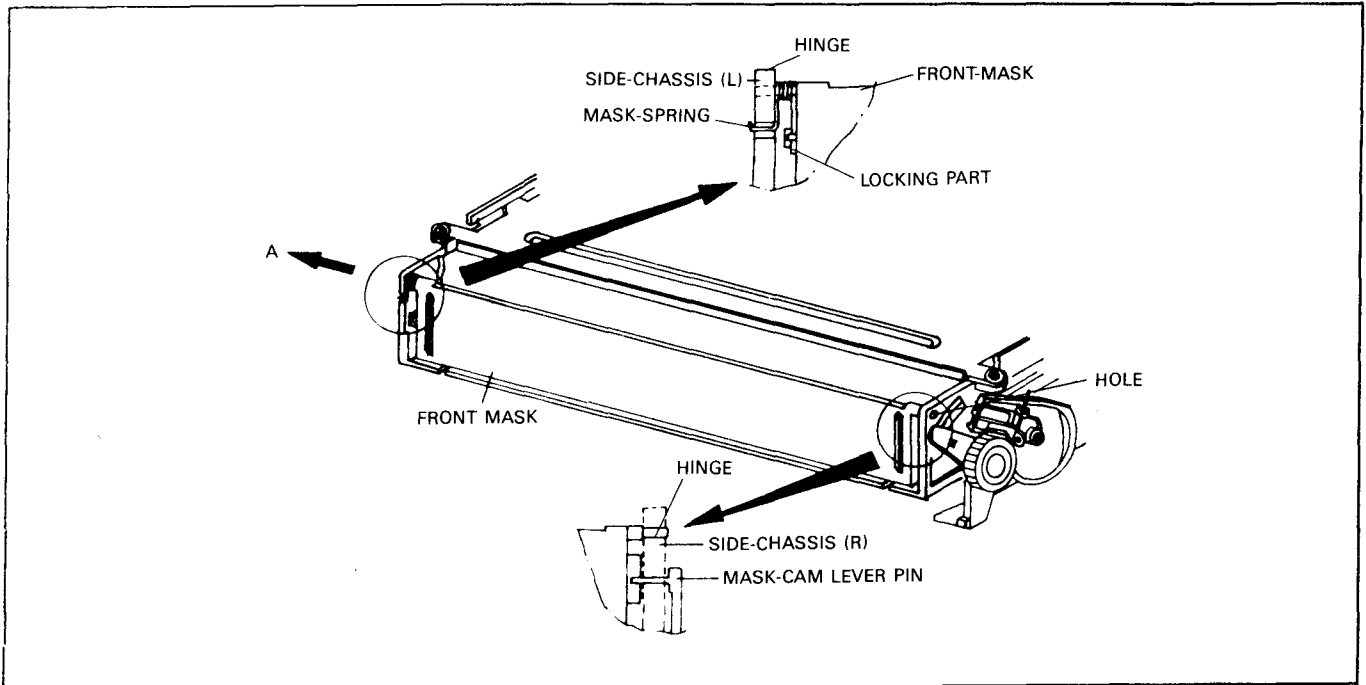

Fig. 14 Front Mask Removal
2-2-3. Housing Assembly Disassembly (Fig. 14 to 21)
1. Remove front mask. (Fig. 14)
(Fig. 14)